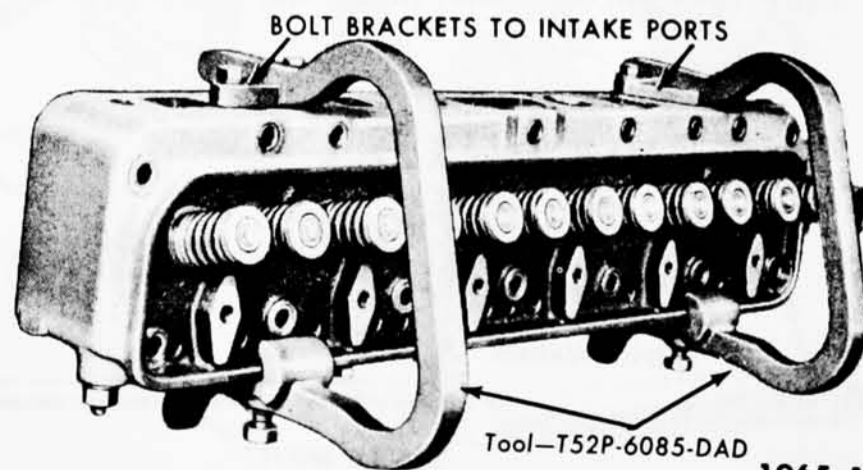

Fig. 14—Cylinder Head Holding Fixture
8. Remove the manifold to head bolts, and pull the manifold assembly away from the head. Brace the assembly so the inlet pipe will not be damaged. Install the cylinder head holding fixtures for convenience in lifting the head and to protect the gasket surfaces (Fig. 14).